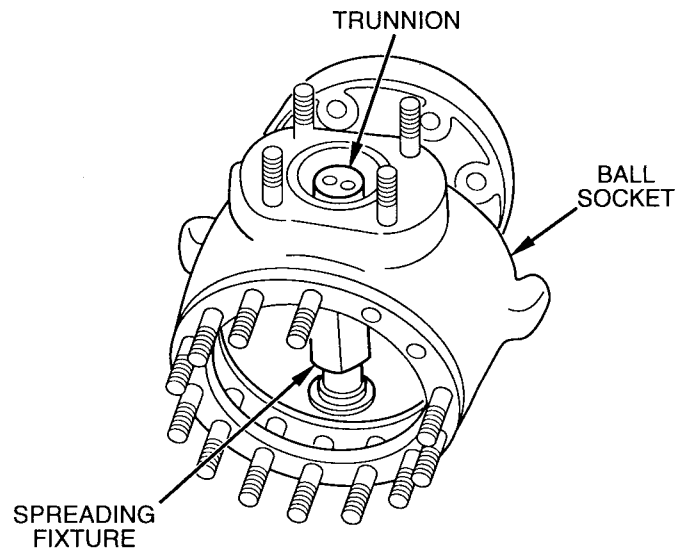

Figure 19 Installing Axle Ball Trunnions
5. Install top and bottom axle ball trunnions (5). Insert and spread the trunnion spreading fixture against the head of the trunnions. (See Figure 19).
6. Install trunnion bearing end plate (4) and capscrews (3). Torque capscrews (3) to 40 lb. ft. (54 N•m) wet.